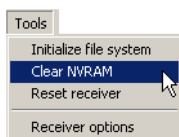

Figure 5-17. Clear NVRAM with PC-CDU
2. Click **Tools ▶ Clear NVRAM** (Figure 5-17).